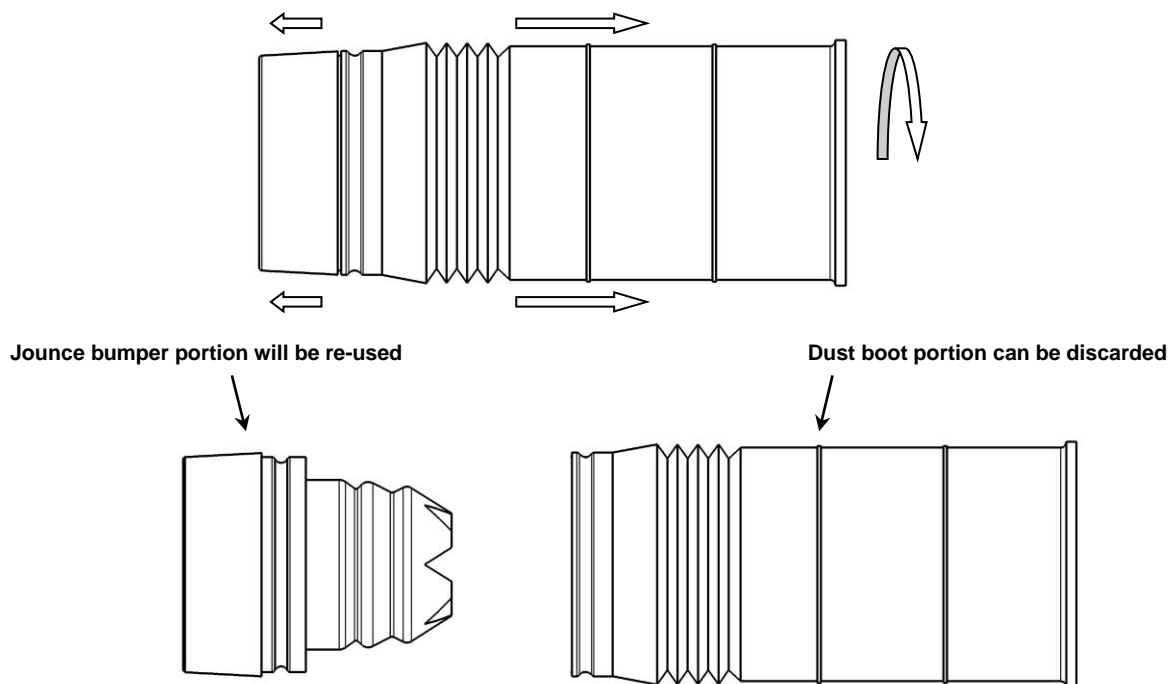

Figure 2: OE Jounce Bumper
- Remove OE dust boot shroud from OE jounce bumper & dust boot assembly by pulling, and twisting, the dust boot away from the jounce bumper cap, as shown in Figure 2 below.